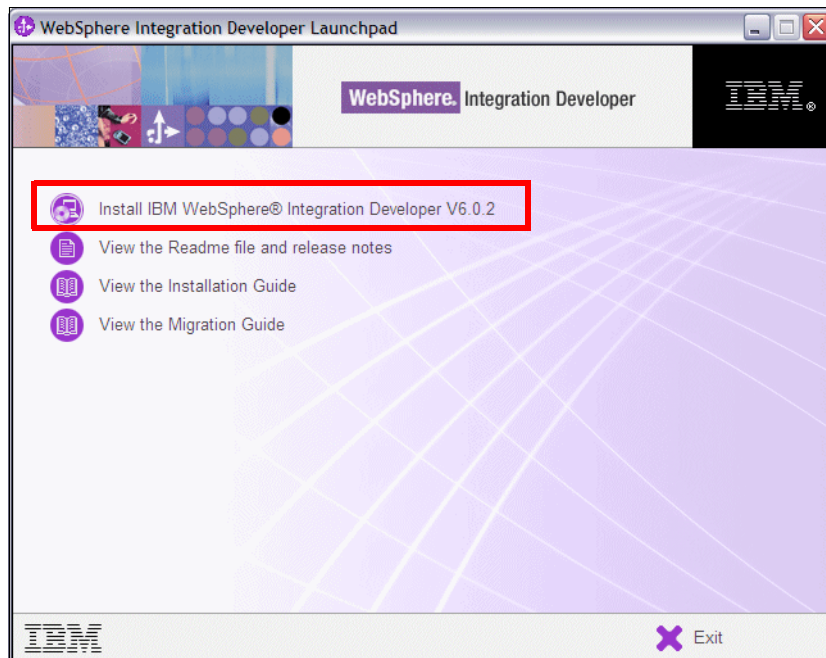

Figure A-2 WebSphere Integration Developer Launchpad
- ▶ In the Launchpad, select *Install IBM WebSphere Integration Developer V6.0.2* (Figure A-2).